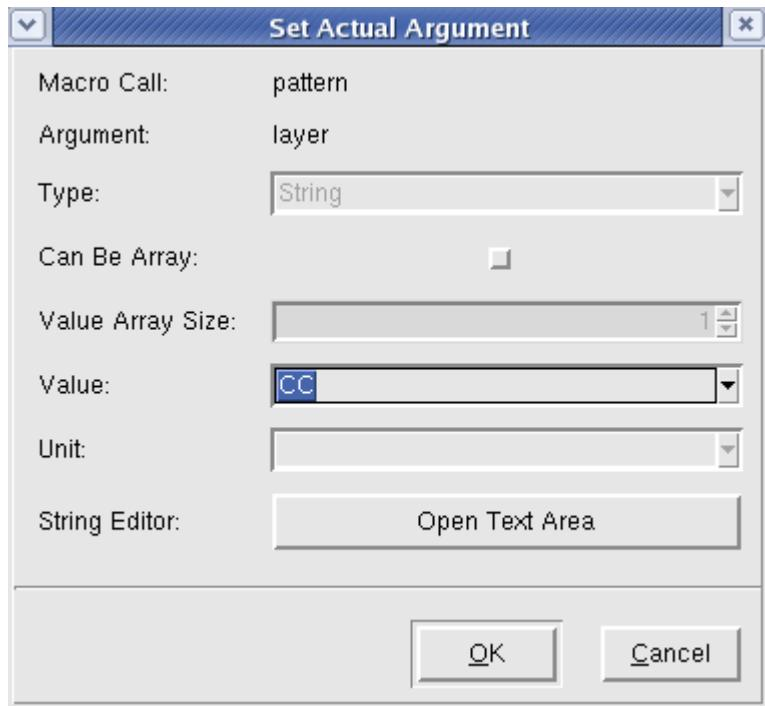
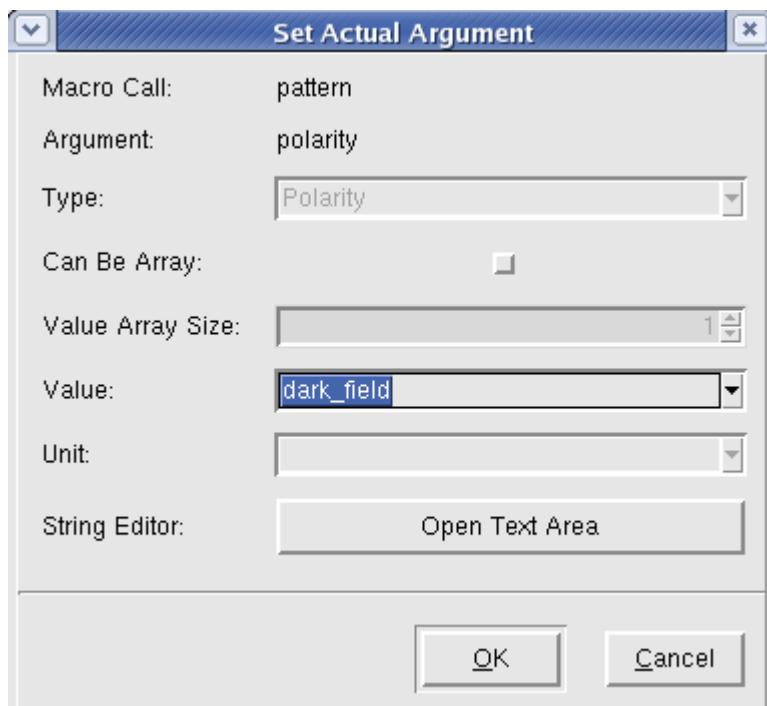
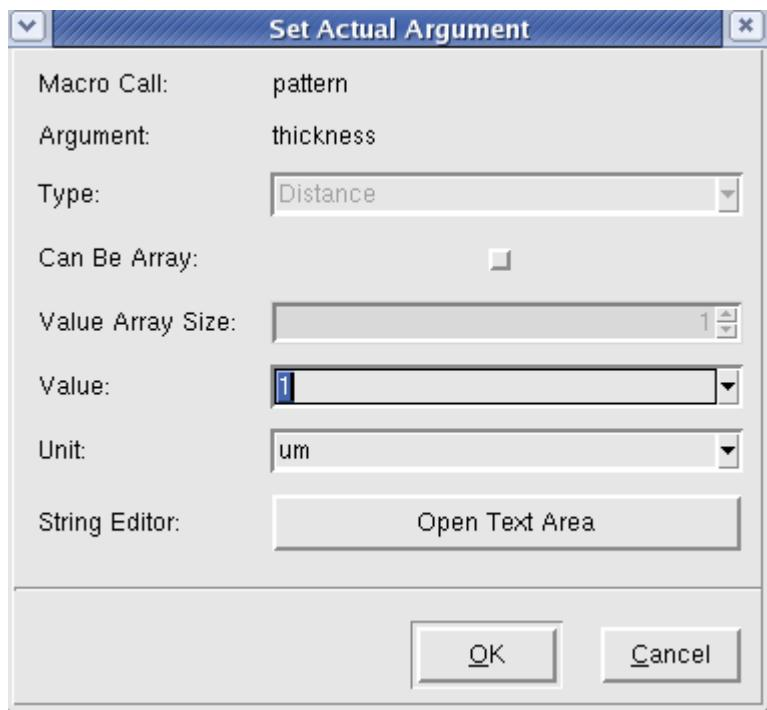

Figure 69: Setting the Layer argument of a pattern step.
Figure 70: Setting the polarity of the mask step.
Figure 71: Setting the thickness of the PR.
13. Add a pattern step the the process area after the anneal step. Set the Layer to CC (Figure 69), the polarity to dark\_field(Figure 70), and the thickness to 1 um(Figure 71).